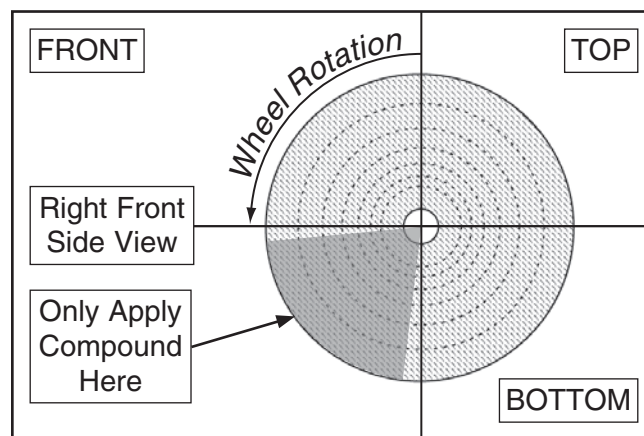

Figure 16. Location where buffing compound should contact wheel.
5. Apply buffing compound to rotating face of wheel, as shown in **Figure 16**. Only hold compound to wheel for 2–5 seconds. The polisher is now ready for buffing/polishing.